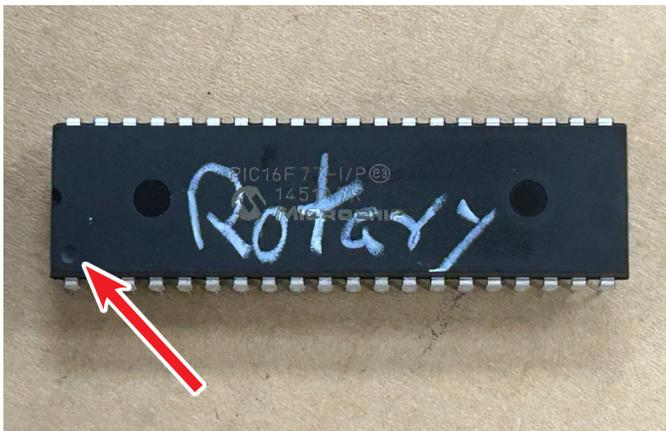

FIGURE 8—The red arrow shows the location of the indent dot.
- The Firmware chip must be inserted onto the board with the indent dot in the bottom left corner aligned with the bottom left corner of the U3 board outlet (see Figures 8 and 9).